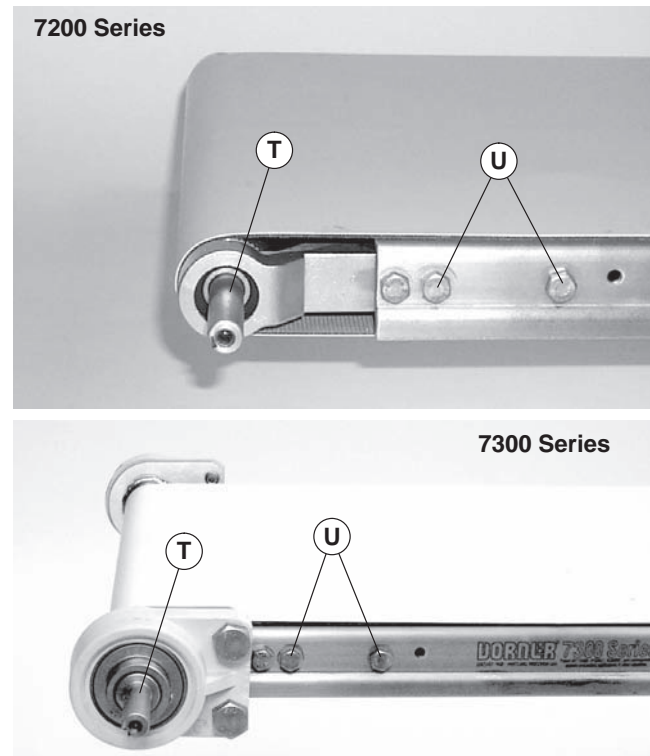

Figure 3
2. Locate conveyor input shaft (Figure 3, item T) and remove two (2) screws (U).
- Locate conveyor input shaft (Figure 3, item T) and remove two screws (U).